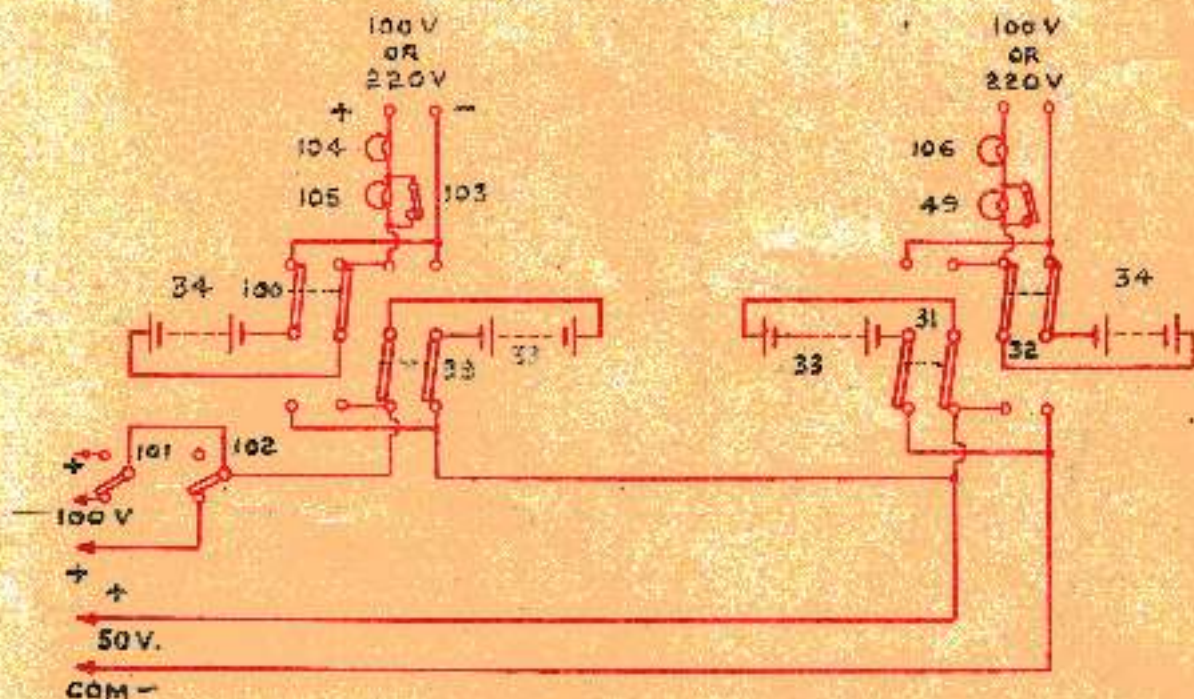

Fig. 4.
Figure 4, shows the modifications to wiring involved when converting anode battery systems to give 100 volts. The whole of the existing wiring is not indicated, as it will differ slightly in different battery outfits, such differences, however, being immaterial when wiring up the additional batteries. The switches (81)(82)(89)(100) are so arranged that, when charging, each 100 volt battery will be divided into two 50 volt tanks (30)(33) and (34)(34) in parallel (each with separate charging resistance (48)(104)(105)(106)) and when discharging, the 50 volt tanks (30)(33) and (34)(34) will be in series. A lead taken from the mid point will allow both a 50 volts and 100 volts supply to be available for supplying the receiving instruments.